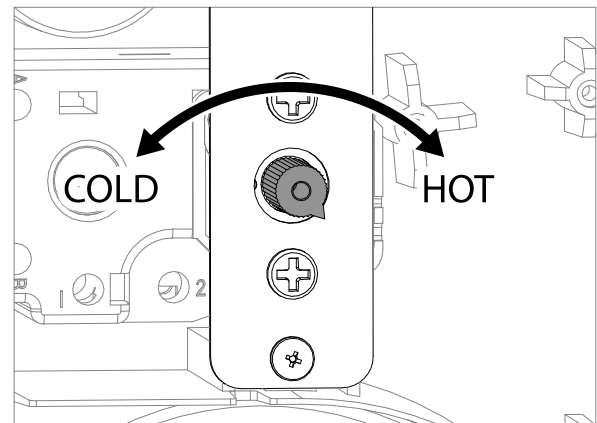

Figure 8: Temperature control
- ▶ The set temperature can be adjusted by rotating the control knob. This can be set to give temperatures in the range 10°C to 70°C (see figure 8, page 16). In hard water areas it is advised that the maximum temperature is restricted to prevent build up of scale. Temperatures above 55°C can scald so consideration should be given to blending at the point of use to a safe user temperature.